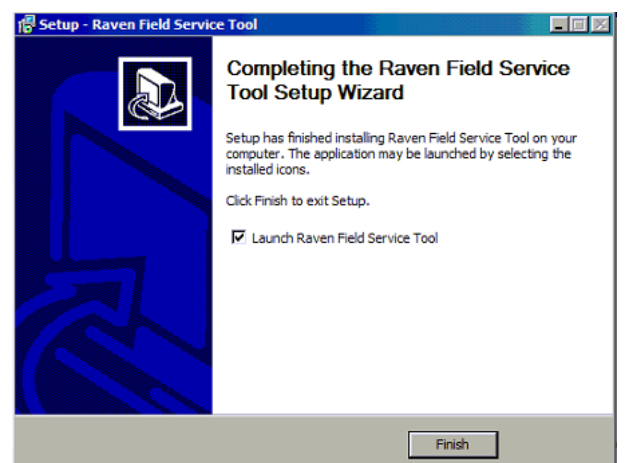

Figure 20 Raven Field Service Tool Installation.
6. Press on *Finish* (Figure 20). The Raven Field Service Tool will open now.